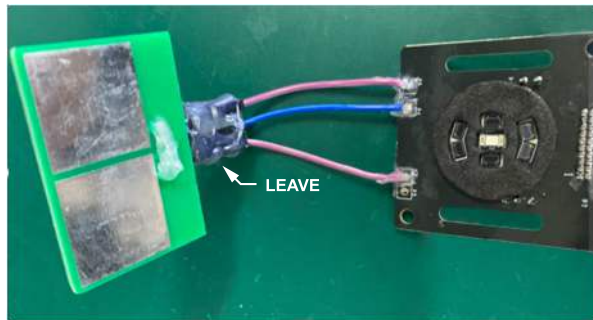

Figure 6. ECG Connection
- ▶ For ECG measurement, connect P3 to Electrode 1, P4 to Electrode 2, and P6 to Electrode 3. Leave Electrode 4 unconnected (see Figure 6).